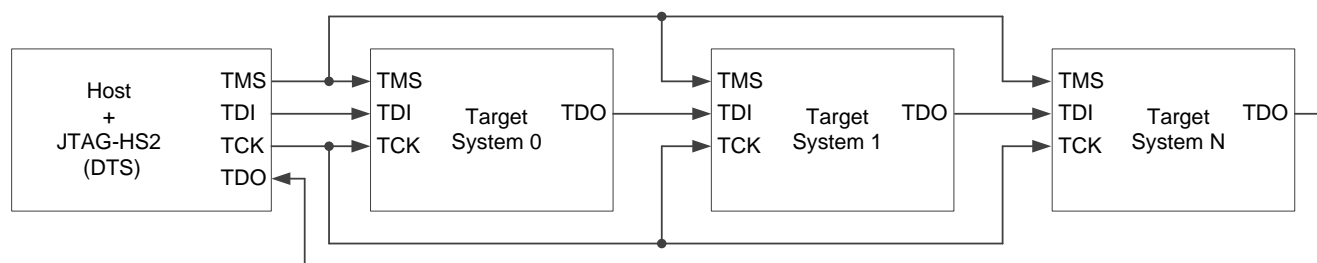

Figure 4. 4-wire series topology.
The JTAG-HS2 supports several scan formats including; the JScan0-JScan3, MScan, and OScan0 - OScan7. It is capable of communicating in 4-wire and 2-wire scan chains that consist of Class T0 – T4 JTAG Target Systems (TS). (See Figs. 4 & 5).